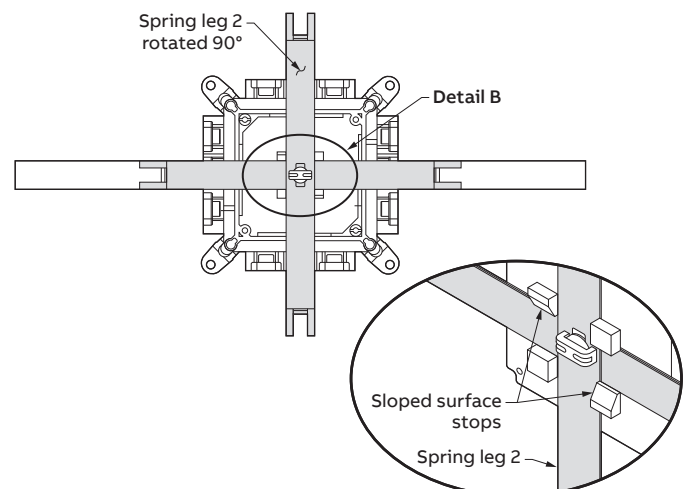

Figure 2
3. Repeat by attaching Spring leg 2 same as Step 1, then rotate 90 degrees, taking advantage of sloped surfaces on stops, until strap rests between stops (Figure 2).